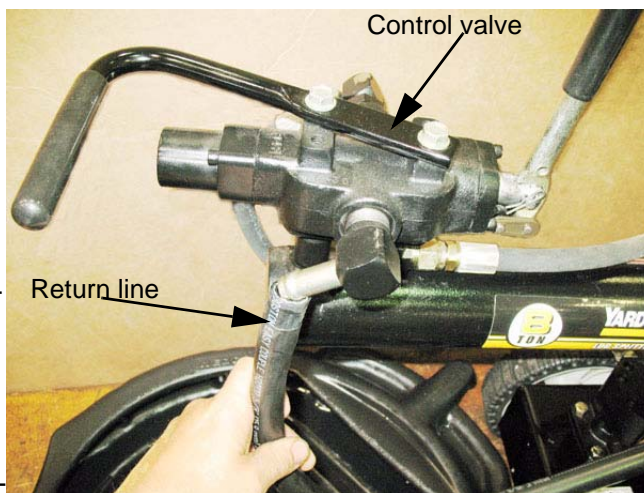

Figure 4.11
4.3. e. Disconnect the hose and direct the fluid into the catch pan. See Figure 4.11.